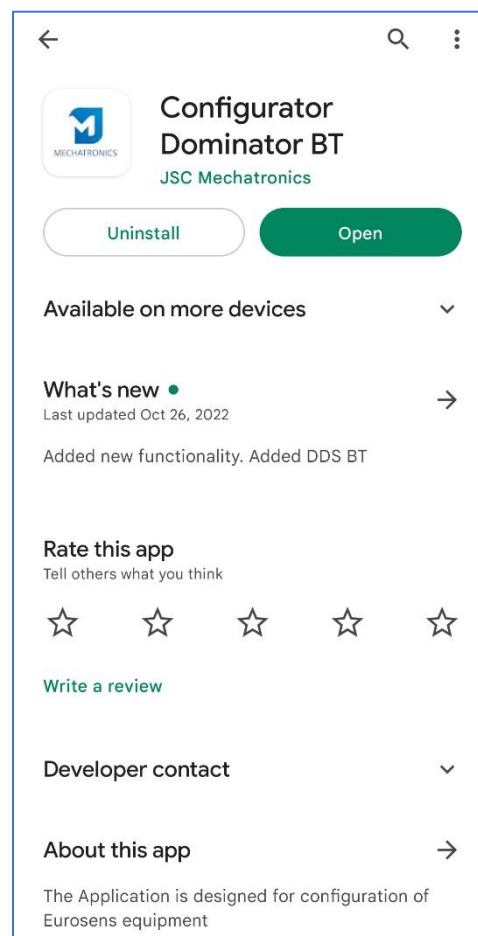

fig. 4.1. Configurator Dominator BT
1. Download and install the application “Configurator Dominator BT” from Play Market (fig. 4.1).
Pressing the “Clear” button clears the list and restarts the search. (Fig. 4.1).